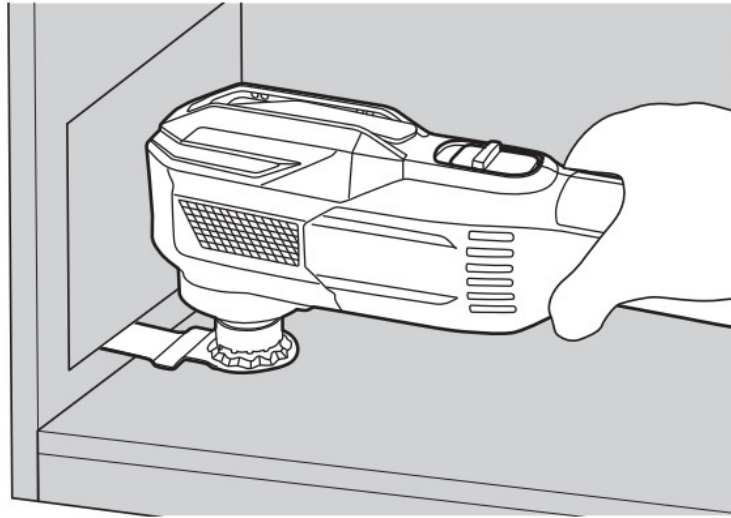

Fig. 14
(1) Switch the unit on and use the dial to set the speed of the application tool.
(2) Lightly place the application tool on the material and move the application tool forward at a pace where the movement isn't slowed. (Fig. 14)